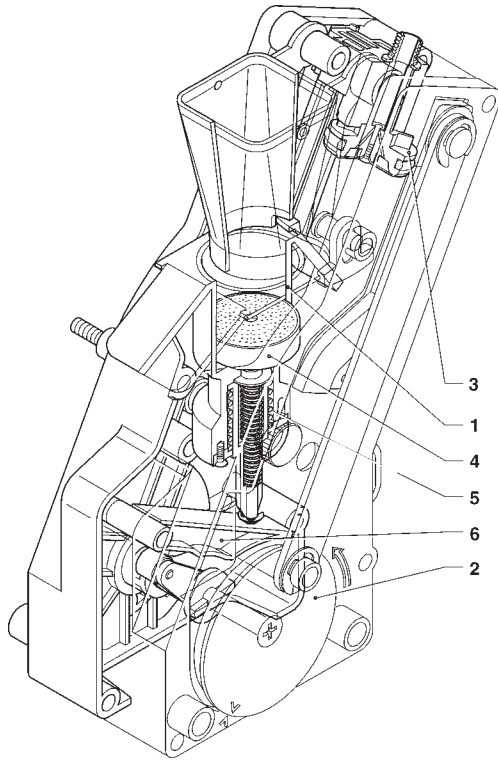

Fig. 16
When the ground coffee dose is reached, the ratiomotor handle engaged with the disk (2) located outside of the assembly rotates by 180°, making the brew chamber swing and lowering the upper piston (3) (see Fig. 16).